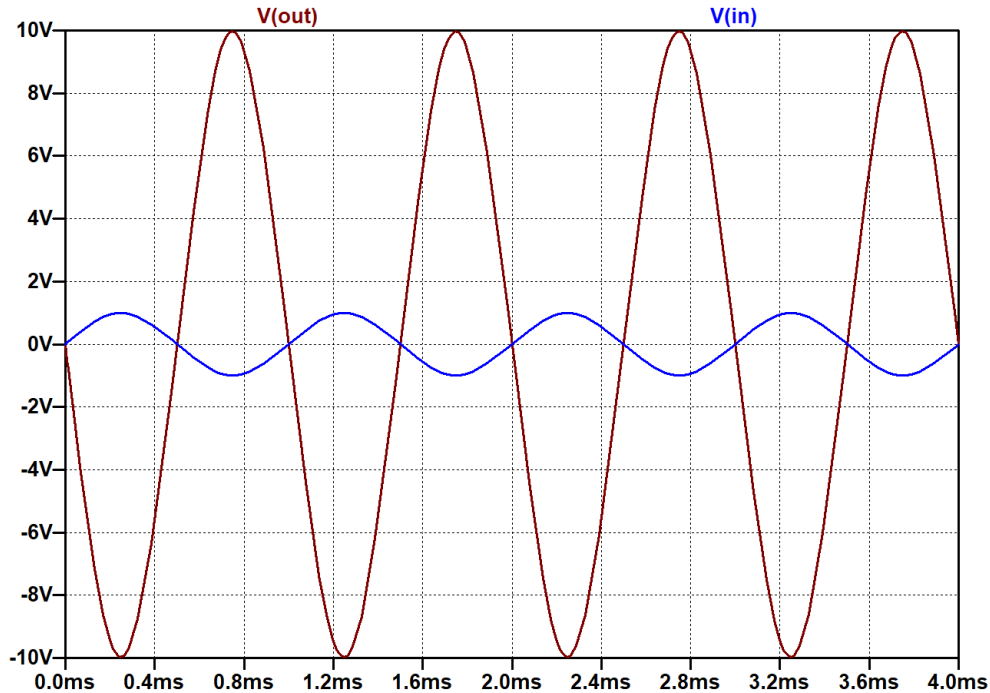

Fig. 8. Input and output waveforms from transient simulation.
- The plot should look like the one in Fig. 8.